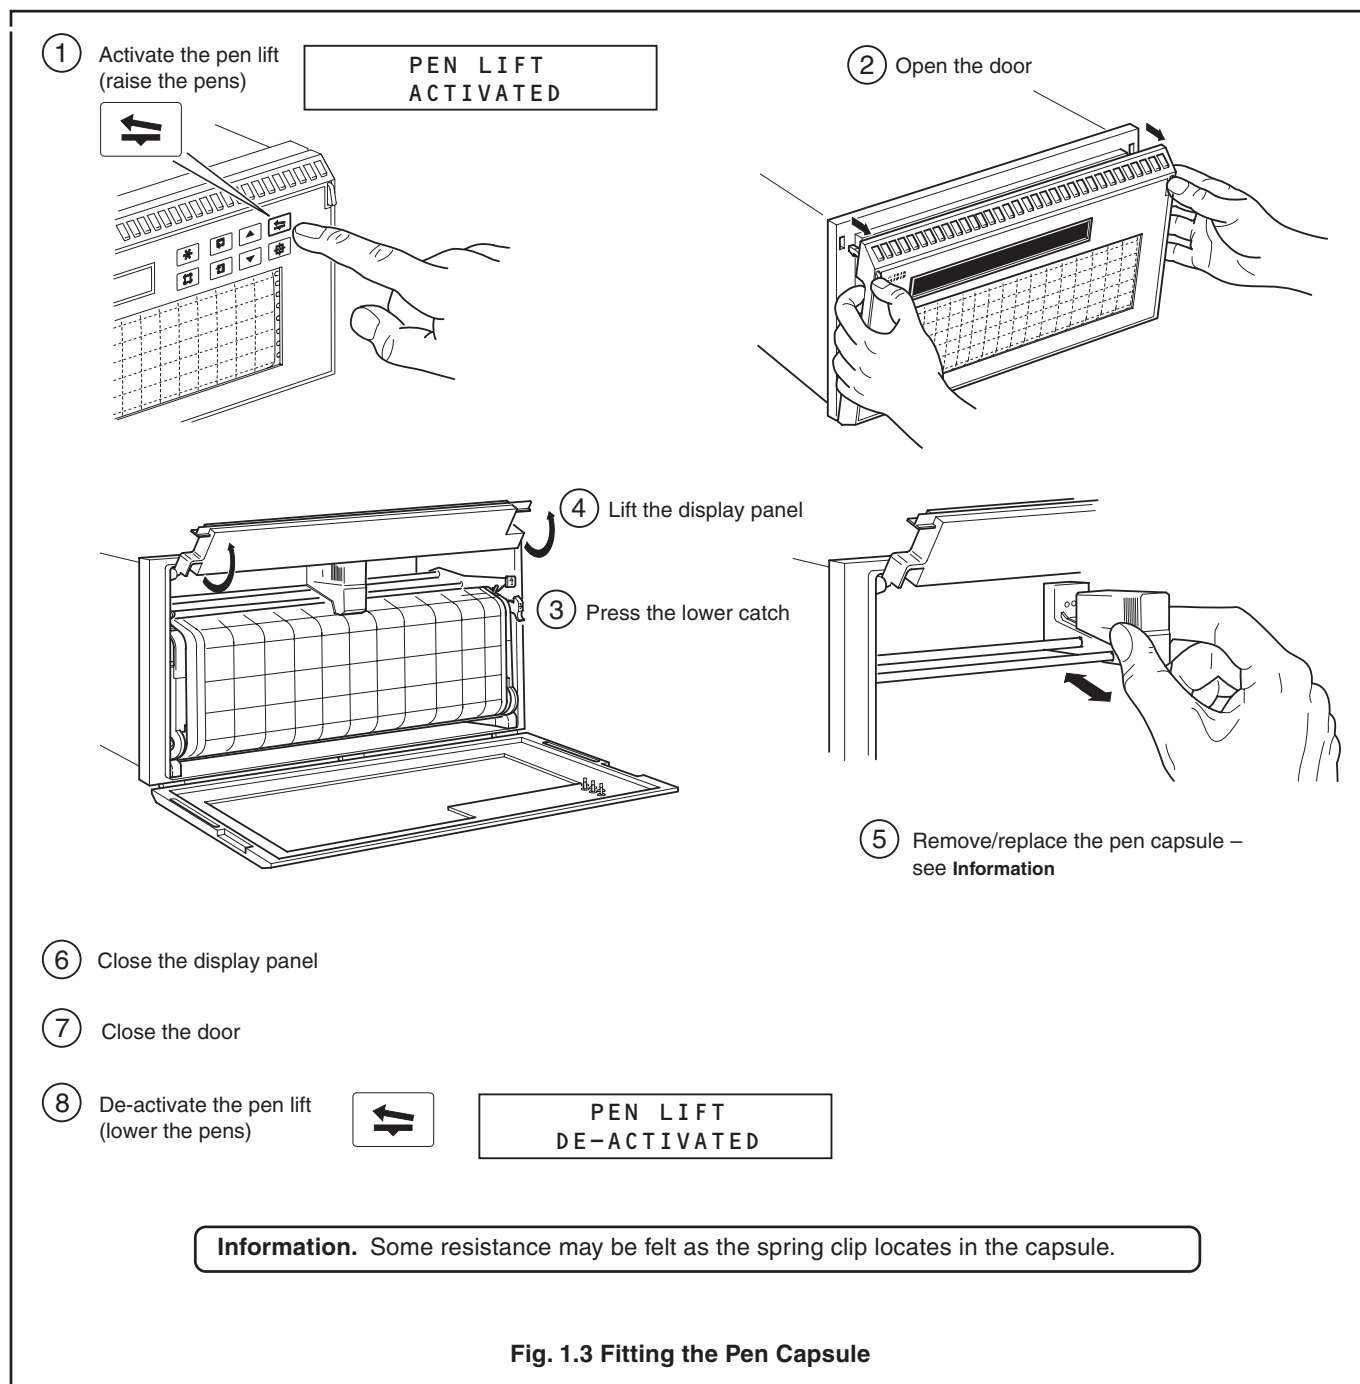

Fig. 1.3 Fitting the Pen Capsule
1.2 Fitting the Pen Capsule – Fig. 1.3
- b) Fit a new capsule as shown in Fig. 1.3.